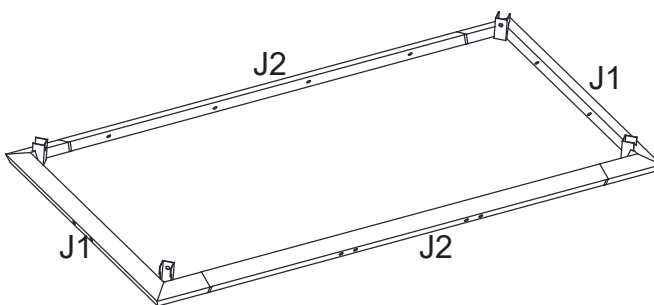

Figure 7-2
7.2. Repeat for opposite sides and ends. Tighten all Bolts. See Figure 7-2.